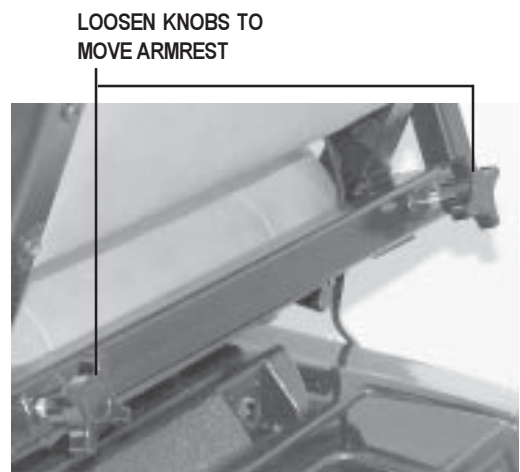

Figure 16. Armrest Width
1. Locate the two knobs on the armrest receiver bracket. See figure 16.